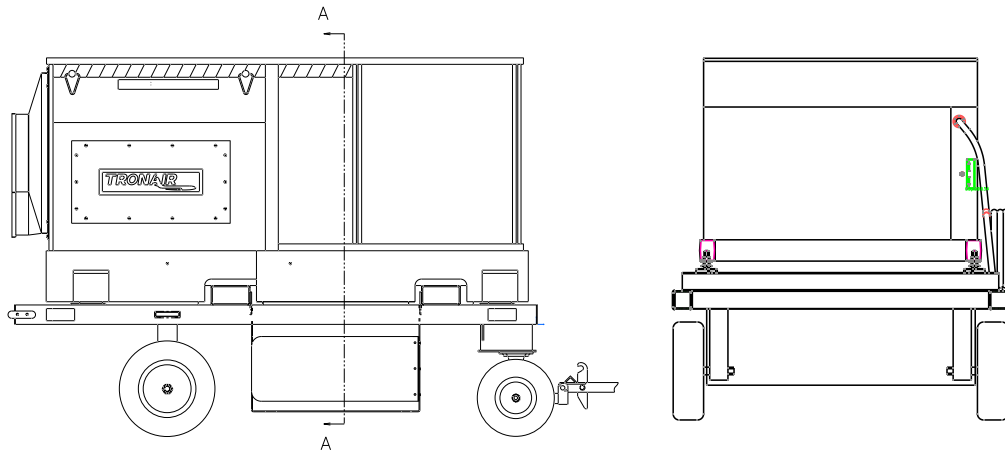

FIGURE 7
5. Locate the Heat/Cool switch in front of the air conditioner unit near the power cord. **See Figure 7.** Move switch up or down to the desired function of either heating or cooling.